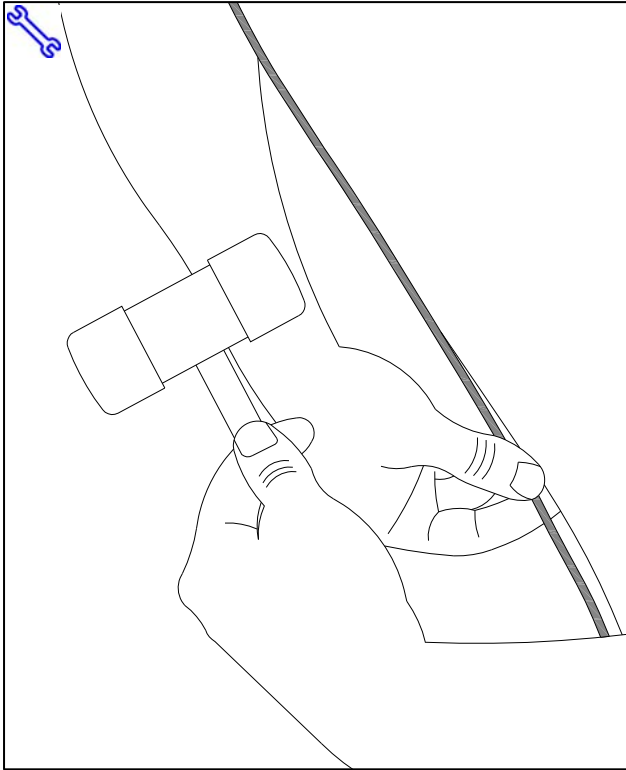

Fig. 1-12
- (o) Continue tapping channel onto door edge moving toward the bottom of door. Use your other hand to steady and guide DEG as you go. (Fig.1-12)